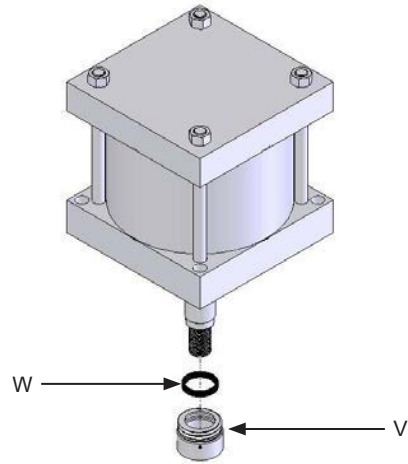

Figure 29. Removing the Bushing Assembly and Seal
PED Cylinders DO NOT come in the 14" size. However, for 8" and 10" bore cylinders follow STEP 4B, a) exactly, only BUSHING ASSEMBLY (V) will be in the place of GLAND PLATE (U) and GLAND SCREWS (T) as shown in figure 29.